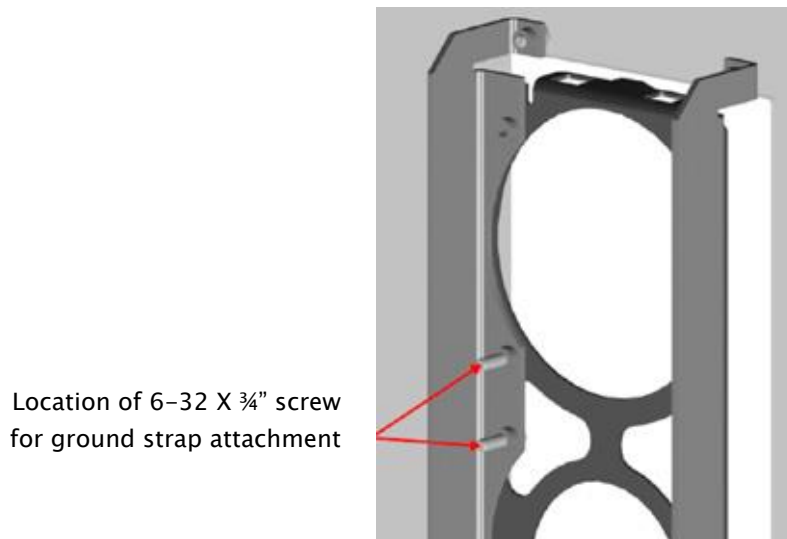

Figure 6-5: Ground Strap Attachment Points
- 2) Insert a MS24693-S30 6-32 x $\frac{3}{4}$ " flat head machine screw through either an unused threaded insert or an existing EFD bracket attachment screw (see Figure 6-5). Attach one end of the ground strap to this screw using a MS21044N06.